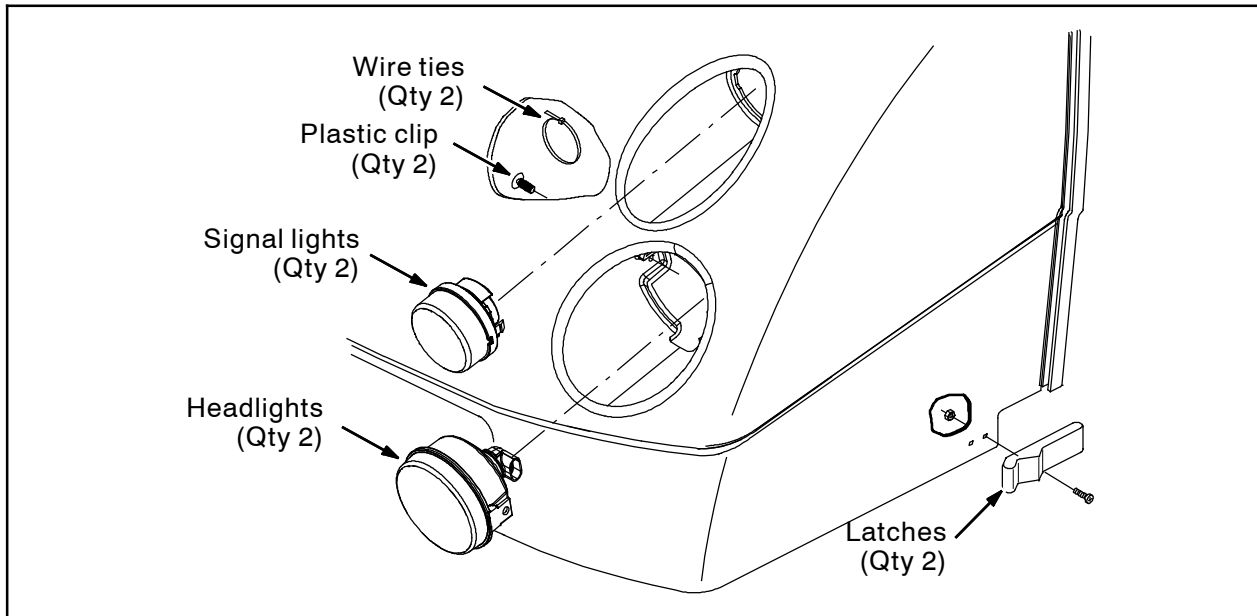

FIG. 2
4. Remove the light harness from the hopper cover. (Fig. 2)
5. Cut the cable tie holding each headlight to the hopper cover. (Fig. 2)
6. Remove the plastic clip holding each headlight assembly to the hopper cover and remove the headlights. Set the headlight assemblies aside. (Fig. 2)
7. Remove the signal light assemblies from the hopper cover. Set the signal light assemblies aside. (Fig. 2)
8. Remove both latches from the hopper cover. Set the latches aside. (Fig. 2)